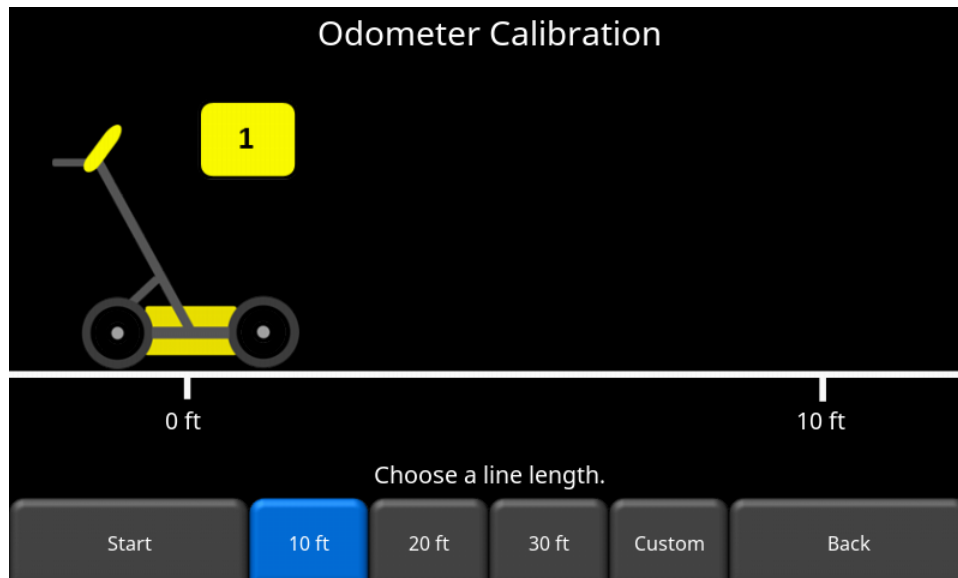

Figure 4-19: Odometer Calibration – select a distance and then press Start
- Odometer Calibration** - This option actually calibrates the odometer (Figure 4-19). Choose a set distance from the screen or select Custom. Then press **Start** and move the system that exact distance, using a measuring tape or other known distance indicator. Press **Finish** when you have travelled that distance.